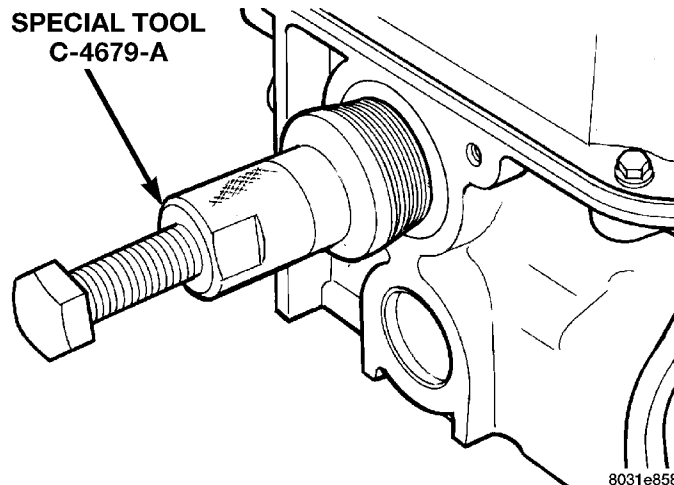

Fig. 39 Removing Camshaft Oil Seal
(3) Remove camshaft seal using Special Tool C-4679-A (Fig. 39).